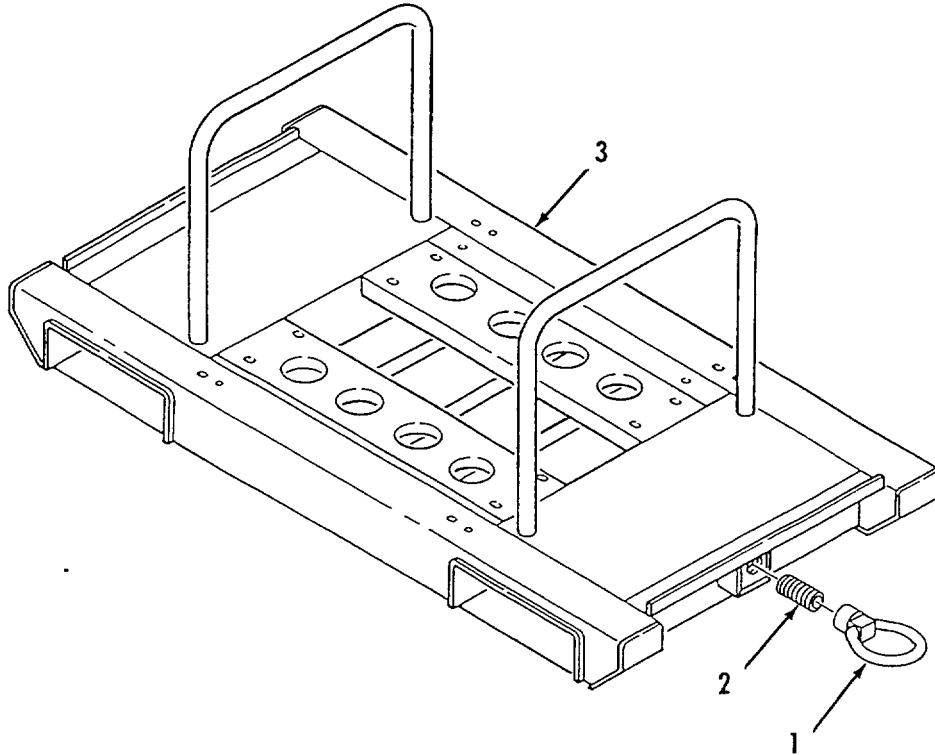

Figure 4-13. Skid Assembly repair.
- a. Disassembly. Refer to figure 4-13.
- (1) Remove ring (1) from insert (2).
- (2) Remove insert (2) from skid (3).
- (3) Repeat steps (1) and (2) for other end of skid (3).
d. Assembly. Refer to figure 4-13.
- (1) Install insert (2) In skid (3).
- (2) Install ring (1) on insert (2).